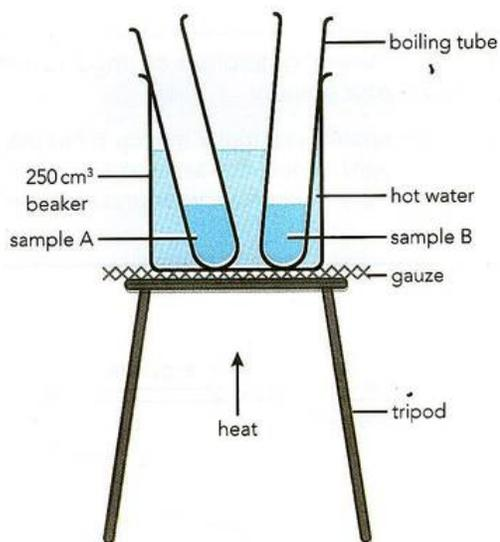

Figure 1.11: Samples A and B are melted in a water-bath.
- 2 Put boiling tubes containing a sample of each solid A and B into the water-bath (Figure 1.11).